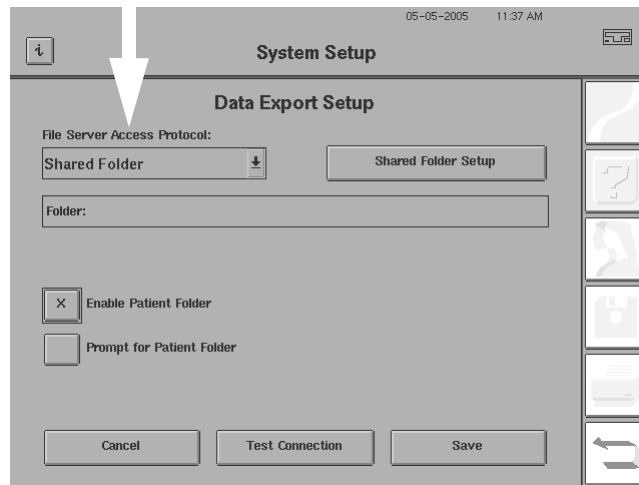

Figure I.8 Data Export Setup Screen
- 1 Select MAIN MENU>SYSTEM SETUP>COMMUNICATIONS SETUP>DATA EXPORT SETUP (or ARCHIVE/RETRIEVE SETUP, etc.) to reach the screen that is shown in Figure I.8.